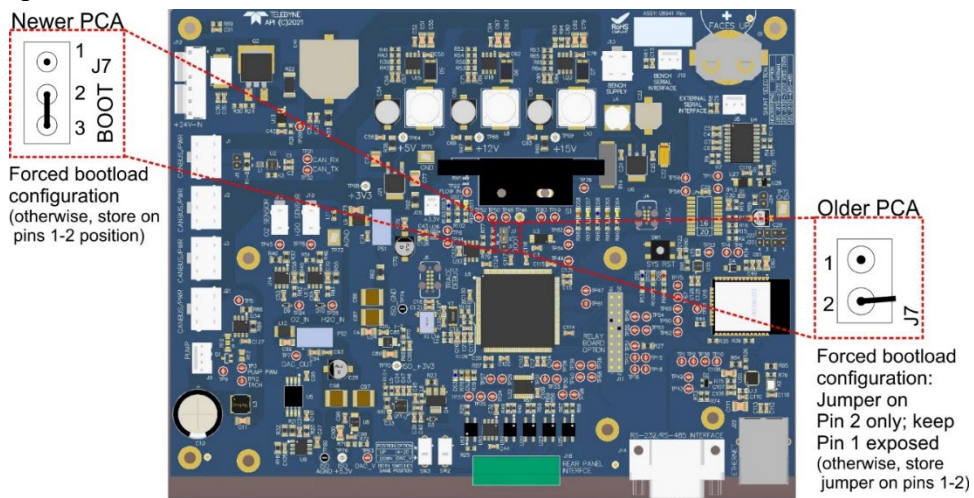

Figure 7-8. J7 Bootload Configuration
The boot loading setup includes instructions for jumper (shunt) configuration on the J7 connector, which is comprised of either two pins or three pins, depending on the PCA. Please refer to Figure 7-8 when following the jumper configuration instructions in these boot loading procedures.
2. Move the boot jumper into the boot position on the mainboard. See Figure 7-8 for detail on jumper location and placement.
6. Replace the boot jumper back to the default position (Figure 7-8)